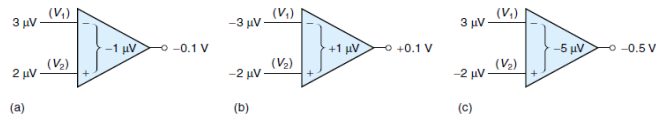

Figure 7.2 Various input voltage combinations ($A = 100,000$).
- In Figure 7.2(a), both inputs are positive, yet the output is negative. Why?
- In Figure 7.2(b). The inputs are both negative, yet the output is positive.
- In Figure 7.2(c), $(V_2 - V_1) = (-2 \mu\text{V} - 3 \mu\text{V}) = -5 \mu\text{V}$, which is clearly negative.